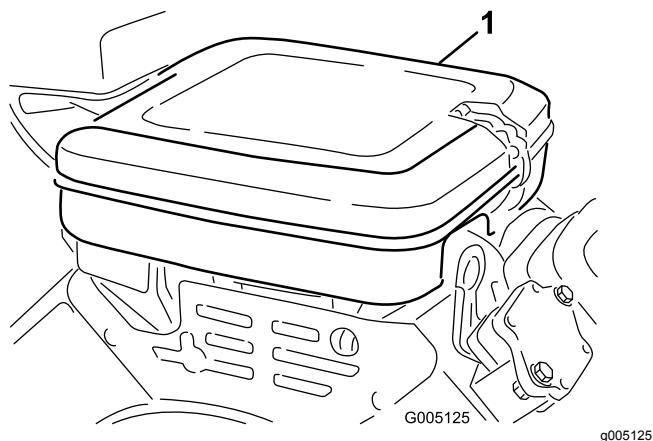

Figure 25
1. Clean the cover thoroughly (Figure 25).